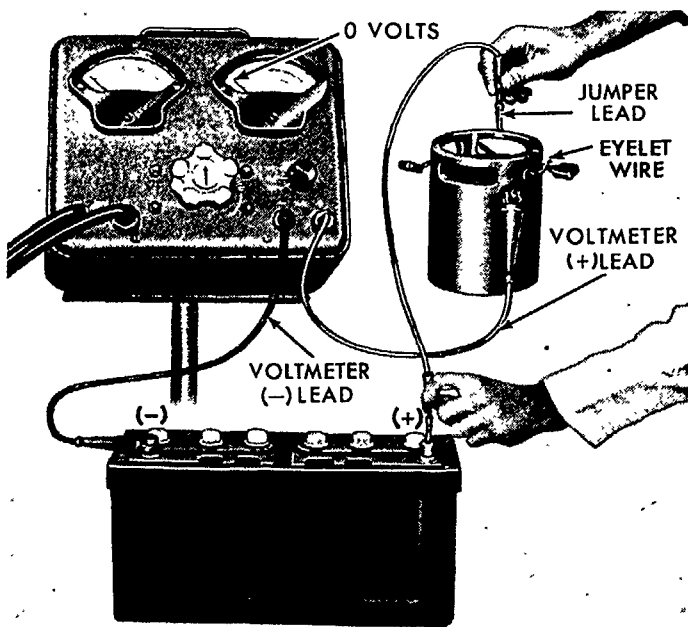

Figure 34
5. **5-Inch Starting Motor:** Disconnect the voltmeter positive lead from the starting motor field terminal and connect it to the eyelet wire, see Figure 34. Connect the jumper lead between the battery positive terminal and, in turn, to each of the insulated brushes. The voltmeter should indicate battery voltage.
2. **5-Inch Starting Motor:** Complete steps 1 through 8 of the disassembly procedure, page 32, and refer to Figure 34 when performing the test.